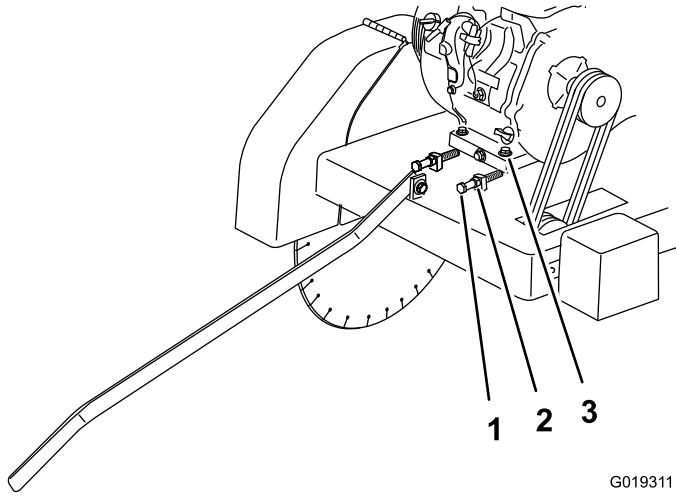
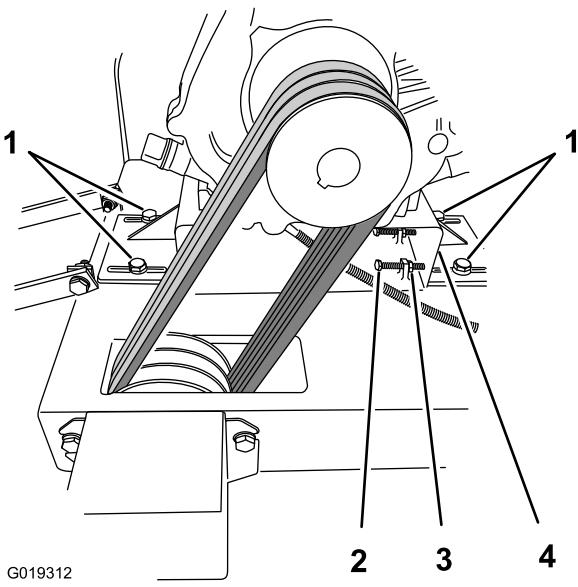

Figure 52
Figure 53
- Loosen the bolts, washers, and nuts that secure the engine to the base of the machine (Figure 52).
- **Model 68046**—Loosen the bolts and washers that secure the engine-deck plate to the base of the machine (Figure 53).
3. Loosen the jam nuts that secure the tension bolts (Figure 52 and Figure 53).
- Model 68045**—Tighten the bolts and nuts that secure the engine to the base of the machine to 48 N·m (35 ft-lb) (Figure 52).
- Model 68046**—Tighten the bolts that secure the engine deck plate to the base of the machine to 48 N·m (35 ft-lb) (Figure 53).
- 5. Loosen the belt tension bolt and jam nut, slide the engine forward to loosen belts; refer to Figure 52 and Figure 53.